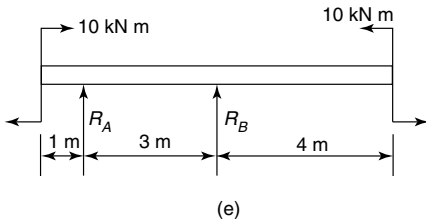

Figure 5.30
5. Figure 5.30 [$R_A = 0, R_B = 0$]